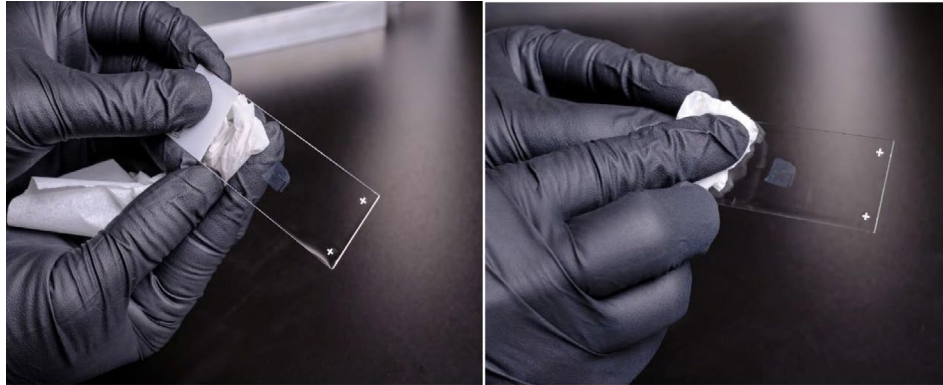

Figure 3.14. Sample slide dried with Kimwipe (left). Drying the sample slide while avoiding the sample (right).
12. Dry the back of the slide by wiping with a Kimwipe (or equivalent). (See Figure 3.14, left.)
14. Carefully use a Kimwipe to dry excess PBS around the tissue. Do not leave the tissue exposed to air for extended periods. (See Figure 3.14, right.)